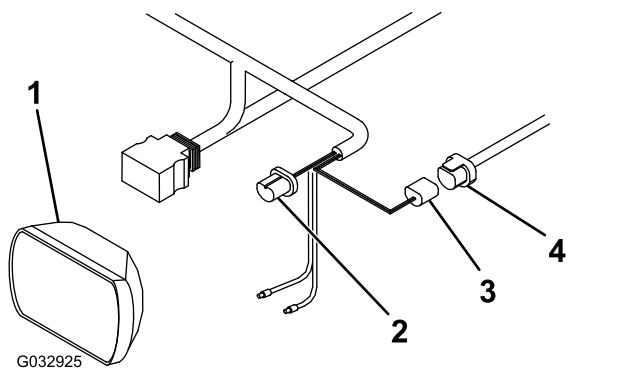

Figure 16
1. Disconnect the wire harness plug from the back of the left vehicle headlight (Figure 16).
2. Connect the blue plug from the long wire harness to the back of the left vehicle headlight (Figure 16).
3. Connect the black plug from the long wire harness to the previously disconnected plug on the vehicle wire harness (Figure 16).